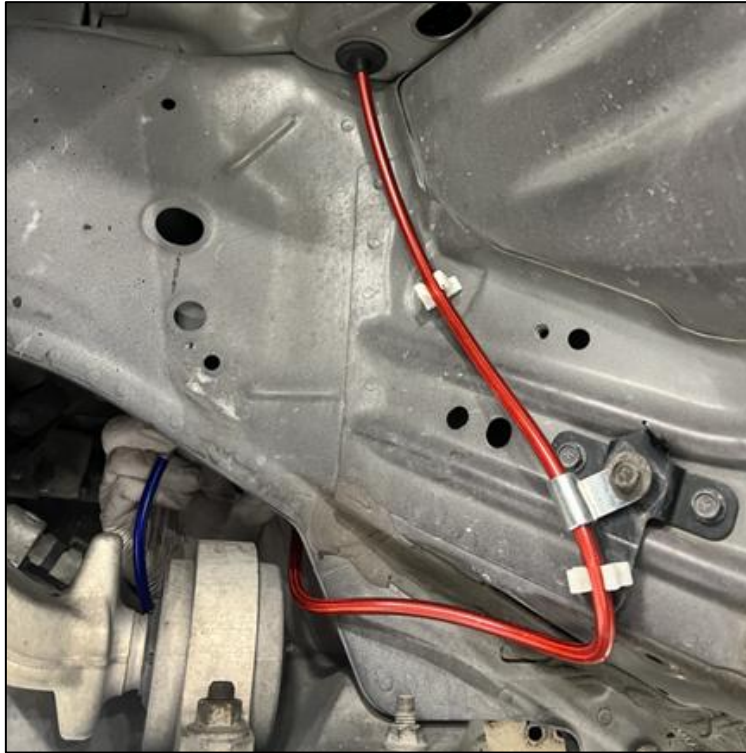

Figure 9
12. Route the Clutch Line similar to *Figure 9* as shown below and use the OE Clips to secure it. Attach the small tab on the Clutch Line to the OE Bracket in the Fender Well.